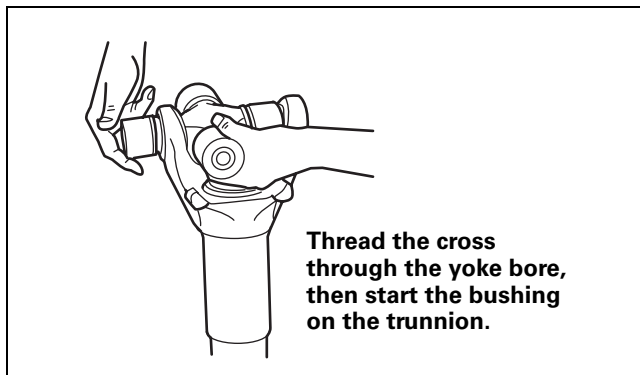

Figure 8.28
3. Position the first bushing onto the trunnion by threading the cross trunnion through the yoke bore. Figure 8.28.